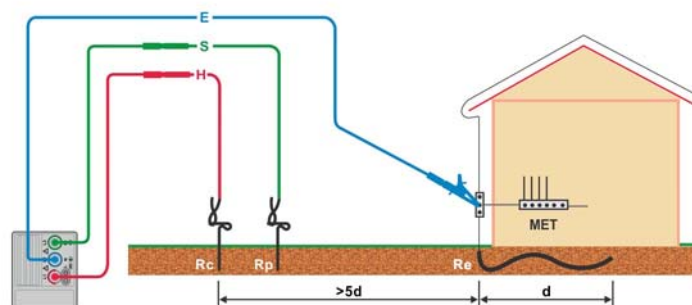
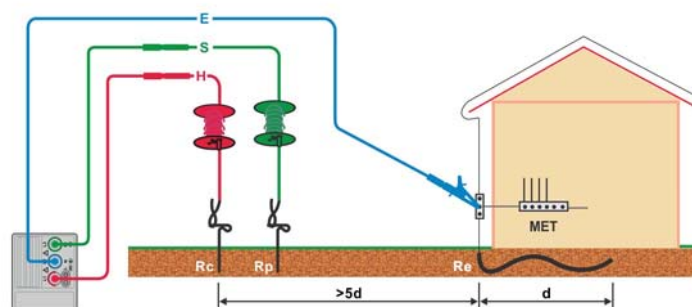

Figure 5.37: Resistance to earth, measurement of main installation earthing
Figure 5.38: Resistance to earth, using extension leads
- ❑ **Connect** the **E** test lead to the earth to be tested and the **H** and **S** test leads to the earth spikes (see *Figure 5.37* and *Figure 5.38*).
There is however a wiring fault shown in *Figure 5.38* that can only be detected by the PE test touch terminal. For this reason, if the TL180 test probe is being used for testing, the instruments **TEST** key should always be touched once the test lead and test probe are in contact with the wiring being tested before proceeding with any measurements.